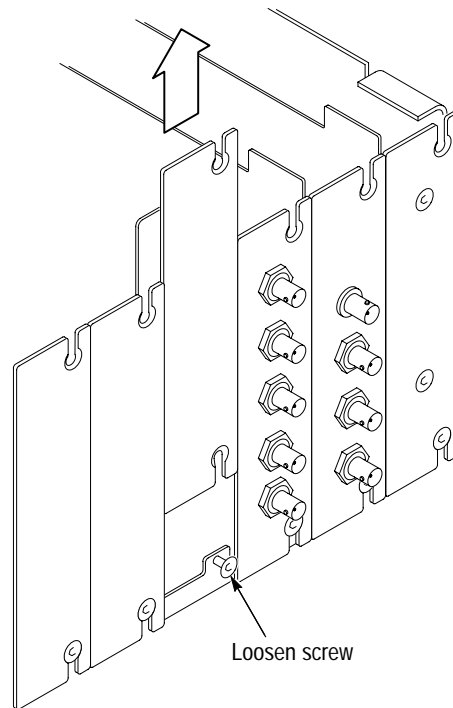

Figure C-2: Removing the rear panel
5. Remove the appropriate rear panel as shown in Figure C-2. Do not remove the bottom screw, just loosen it. You will use it later to secure the module.